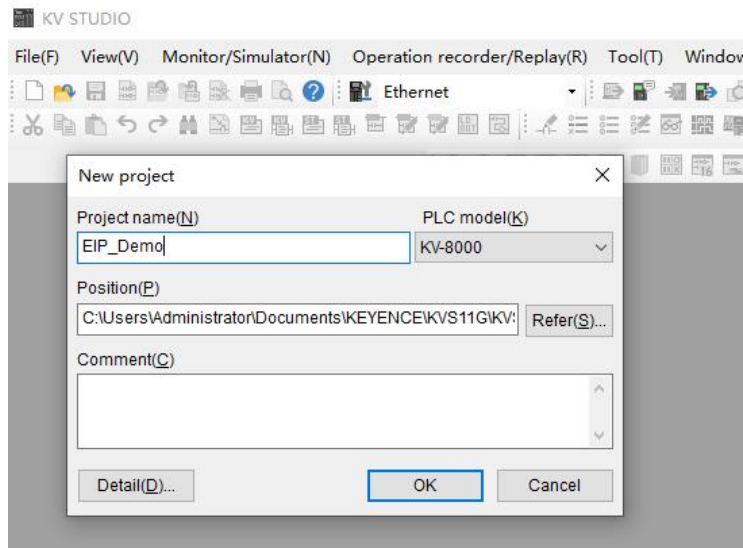

Figure 4-4
- As shown in Figure 4-4, the New Project dialog box pops up. Fill in the project name and storage path. Select the corresponding PLC Type: